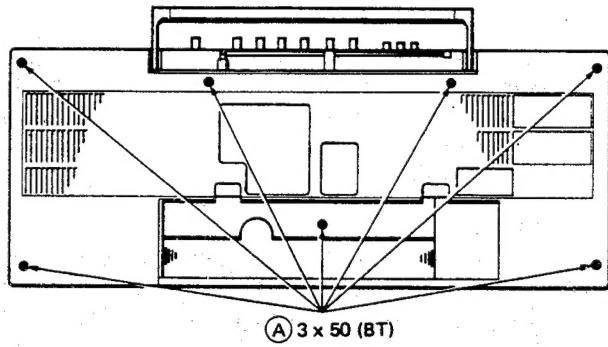

Fig. 4
- 2) The rear case can be removed by removing 7 screws (A) shown in Fig. 4. Remove Pin connectors P102, P103 of the main PC Board at that time.